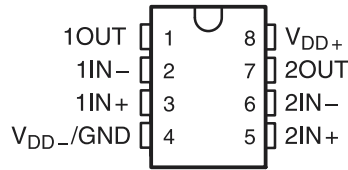

Figure 4-1. Pin Diagram (SOIC (D) 8) Package
Figure 4-1 shows the TLC2272A-Q1 pin diagram for the SOIC (D) 8 package. For a detailed description of the device pins please refer to the *Pin Configuration and Functions* section in the TLC2272A-Q1 data sheet.